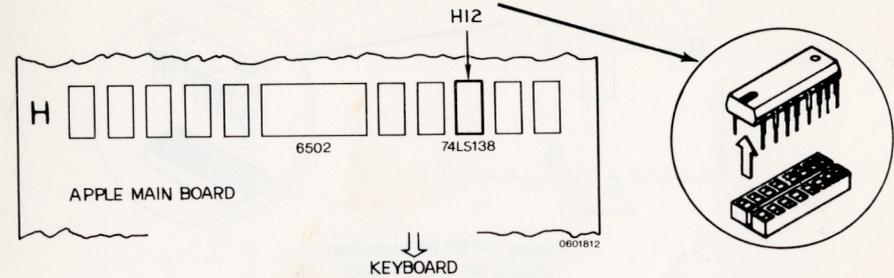

Figure 1-2: IC H12 Location (Apple Main Board)
1. Remove 74LS138 integrated circuit (IC) at location H12 (refer to Figure 1-2) by gently working it free from its socket. We recommend that you use an IC puller (available from your dealer). Do not bend the IC leads as it will be difficult to re-install.